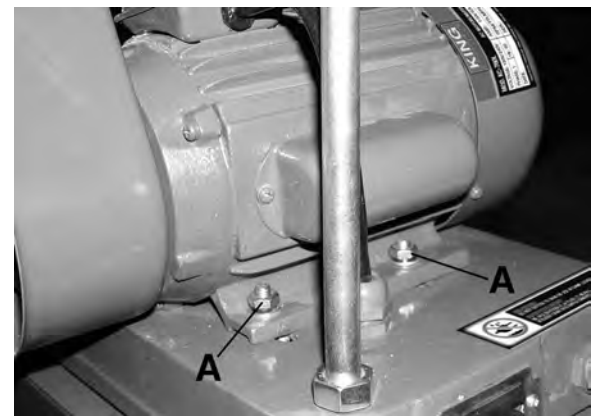

Figure 23
4. Loosen the four motor mount lock nuts (A) Fig.23 and move the motor towards the sanding disc to release the drive V-belt tension.
10. Once the proper tension is obtained, retighten the four motor mount lock nuts (A) Fig.23.